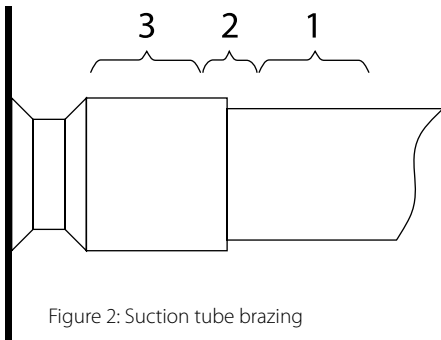

Figure 2: Suction tube brazing
**Figure 2** shows the proper procedures for brazing the suction and discharge lines to a Scroll compressor.